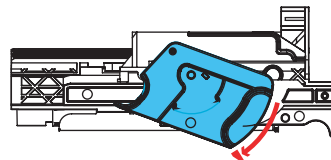

Figure 4-12
5. Twist the closing lever and the brewer will open (see figure 4-12).